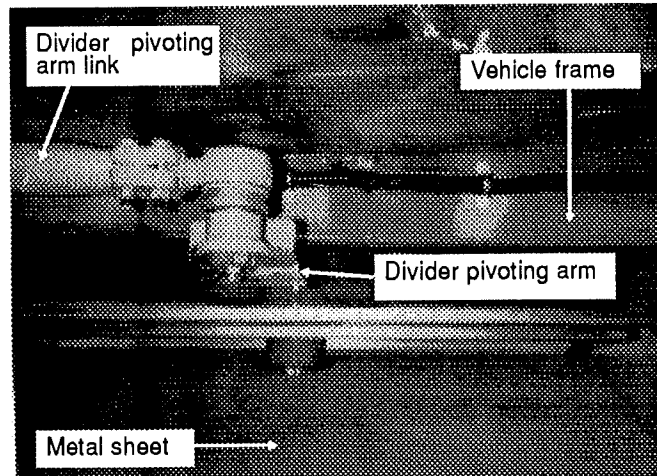

FIG. 5
2. Using a square, place one extremity against divider pivoting arm and the other extremity against the vehicle frame. Refer to figure 5 & 6 for more details. The angle of divider pivoting arm should be adjusted to  $90^\circ$ .